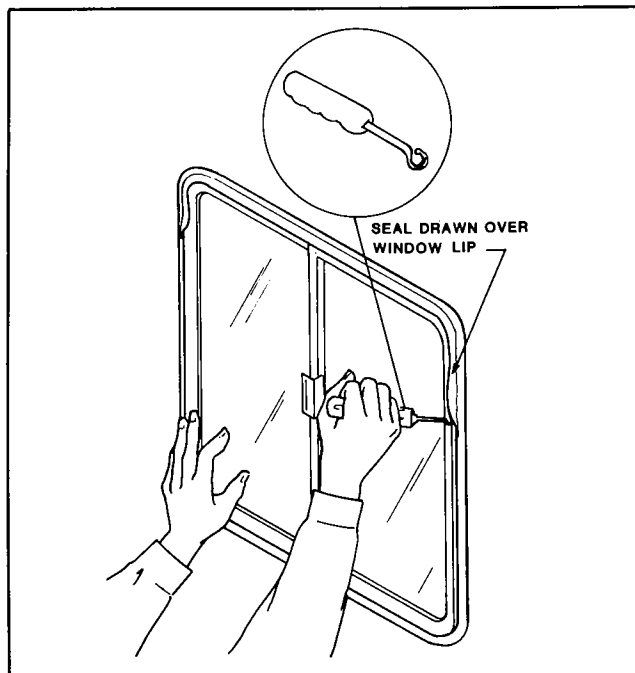

Figure 44. Installing Window in U-Channel of Rubber Gasket
4. From the inside, slide window unit into the U-channel. Draw gasket lip over the window unit edge (figure 44). Use the window installation tool with the curved bit (part number FB-12).